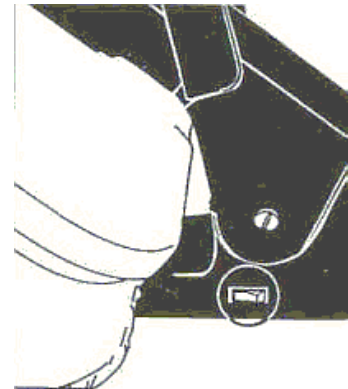

FIGURE 1
1. With Pressing plate in lifted position, plug power cord into electrical outlet, and set On / Off Switch to “On” position (FIGURE 1).